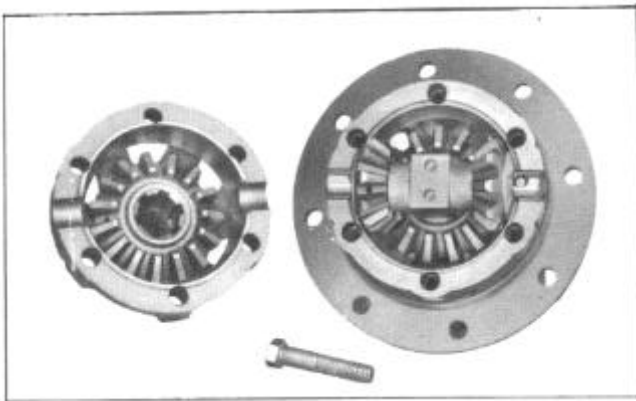

FIGURE 15
3. Remove bolts and lockwashers from differential case. Separate the right and left hand case. See Figure 15.